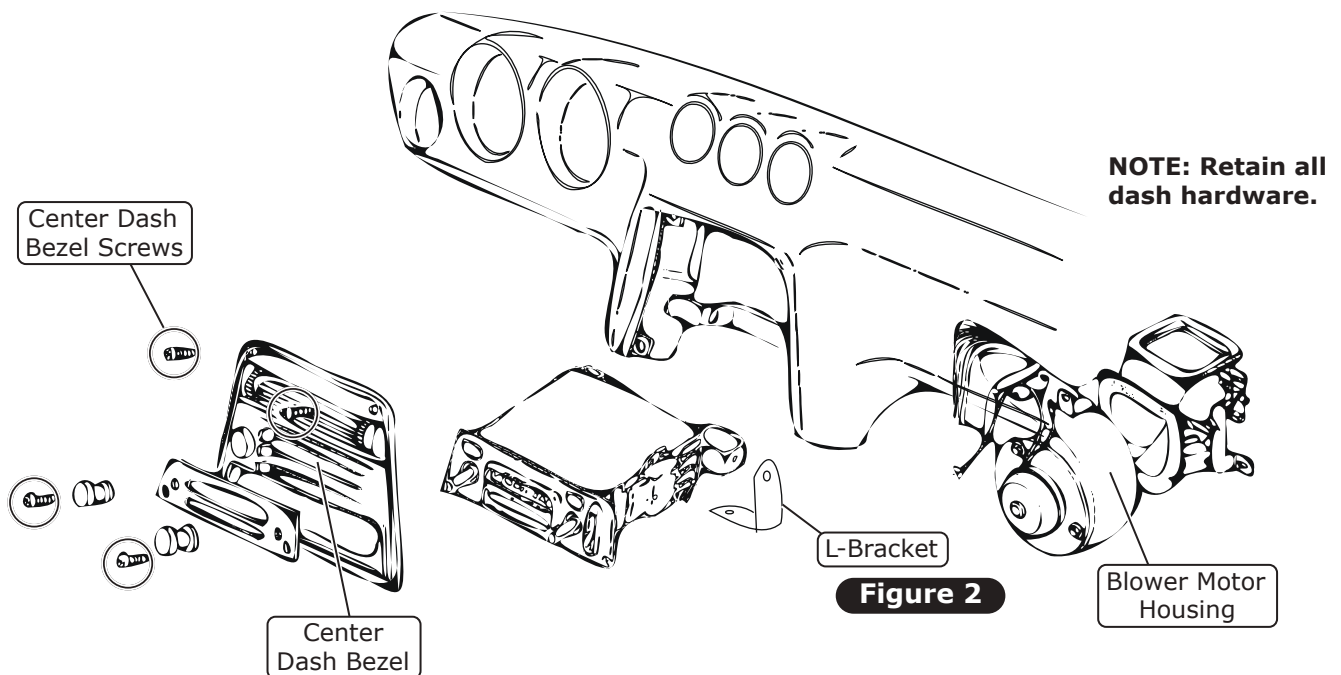

Figure 2
6. Remove the (2) remaining screws on the top corners of the center dash bezel. Then carefully remove the entire bezel along with the OEM climate control panel assembly.
7. Remove the right hand L-bracket recessed behind and below the center area dash support (See Figure 2, below).
4. Install the fresh air cap over the opening then pin the template on as shown in Figure 2, below. Using the supplied 1/4-20 x 3/4" serrated flange bolts, let the fresh air cap cure (See Photo 1, below). **NOTE: If desired you may bolt the fresh air cap to the cowl for increased leak prevention.**